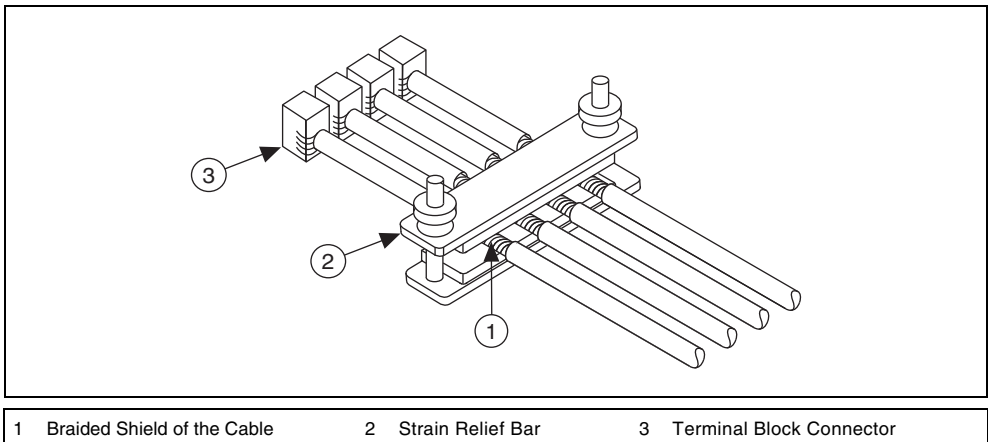

Figure 22. Required Cabling for CE Compliance
- d. Cables passing through the same clamp must be parallel and must not overlap each other, as shown in Figure 22.
- a. Remove the outer jacket from the section of the cable to be inserted between the strain-relief bar clamp and foam, as shown in Figure 22. This will expose the braided shield of the cable.